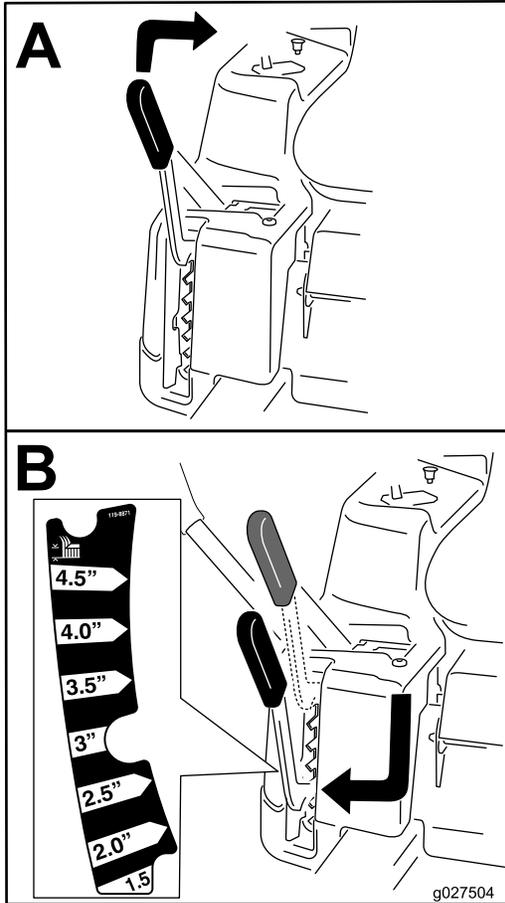

Figure 24
**Note:** The transport position is the highest height-of-cut position at 115 mm (4-1/2 inches) as shown in Figure 24.